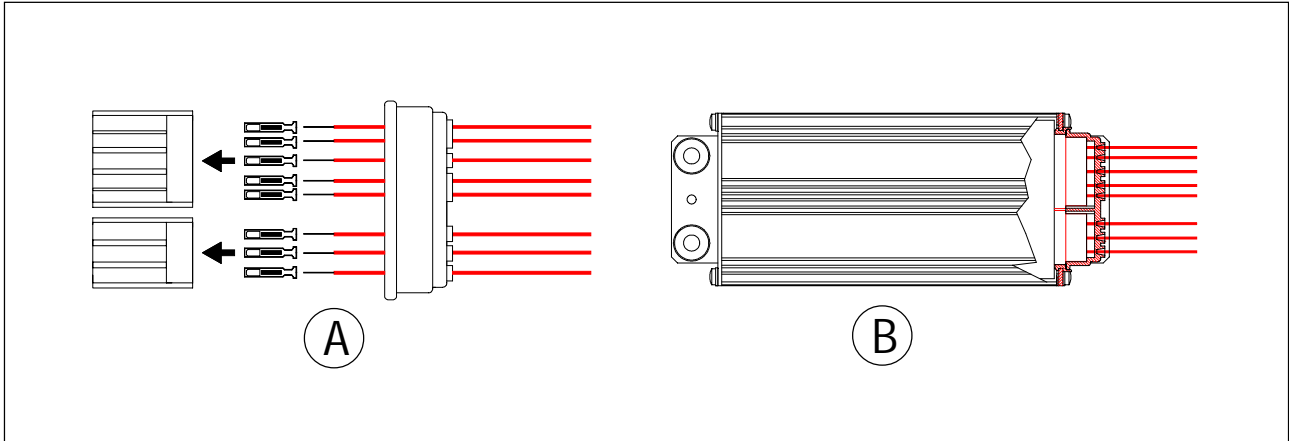

FIGURE 3
- Follow the wiring diagram to insert the terminals in the connector, in their corresponding positions (Figure 3.A.).
- Adjust the two connectors inside the sleeve and connect the connector-sleeve set to the source (Figure 3.B.).